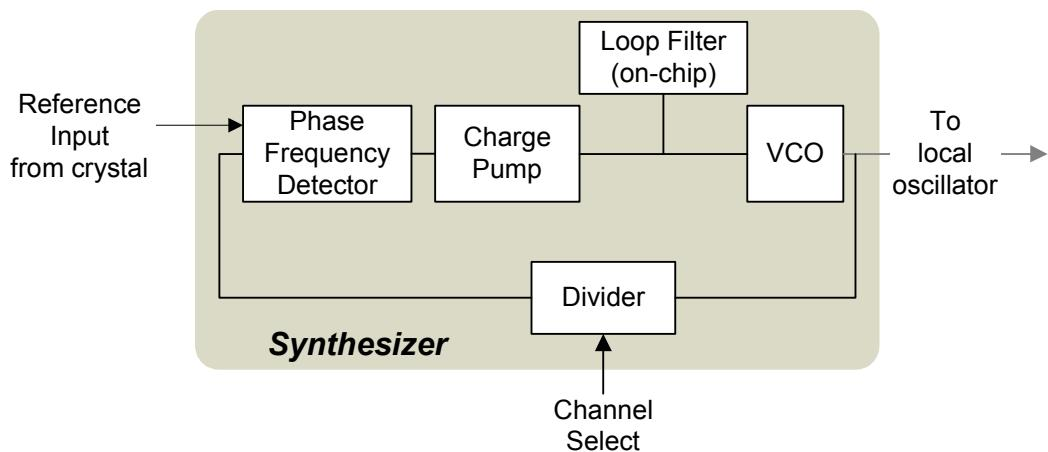

Figure 3-4. RF Synthesizer Block Diagram
The AR5112 supports two on-chip synthesizers to generate local oscillator (LO) frequencies for the receiver and transmitter mixers. Both synthesizers share the topology shown in Figure 3-4. A signal generated from a 40 MHz crystal is used as the reference input for the synthesizer. An on-chip voltage controlled